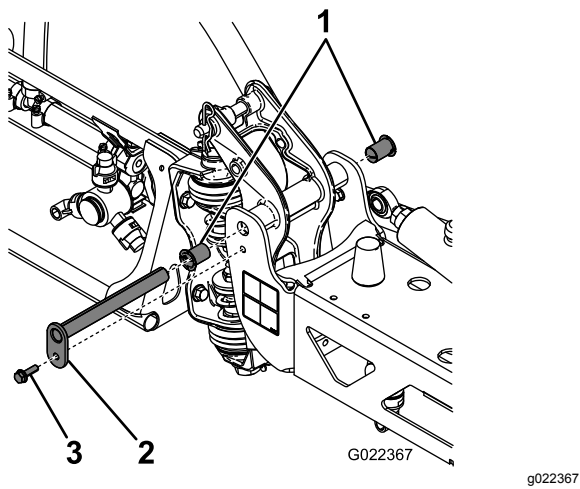

Figure 43
3. With the weight of the boom supported, remove the bolt and nut securing the pivot pin to the boom assembly (Figure 43).
6. Remove and inspect the nylon bushings from the front and back sides of the pivot bracket (Figure 43).
8. Install the boom and pivot bracket assembly into the center frame, aligning the openings (Figure 43).